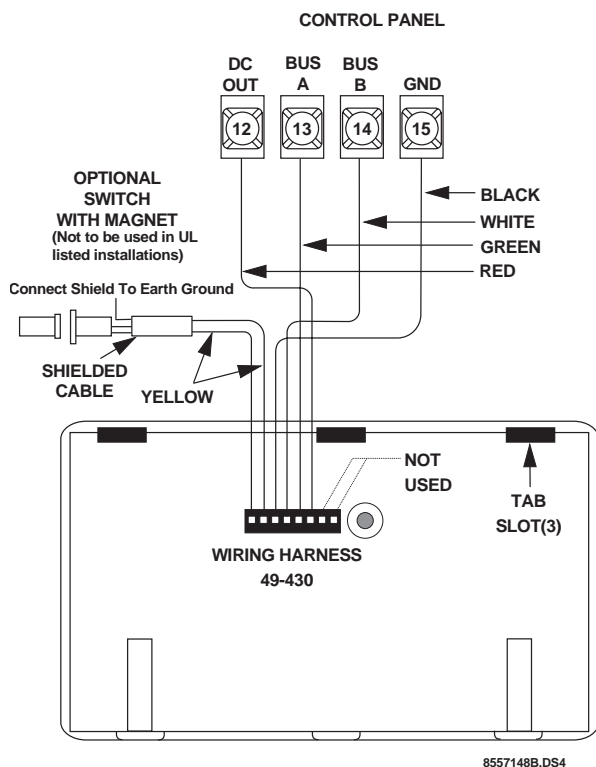

Figure 3. Wiring the Touchpad to UltraGard Panels
1. Connect the touchpad wiring to the panel terminals as shown in Figure 3. Wire multiple touchpads in parallel.
2. If desired, connect an optional hardwire switch to the yellow touchpad wires as shown in Figure 3 (unsupervised in UltraGard systems).